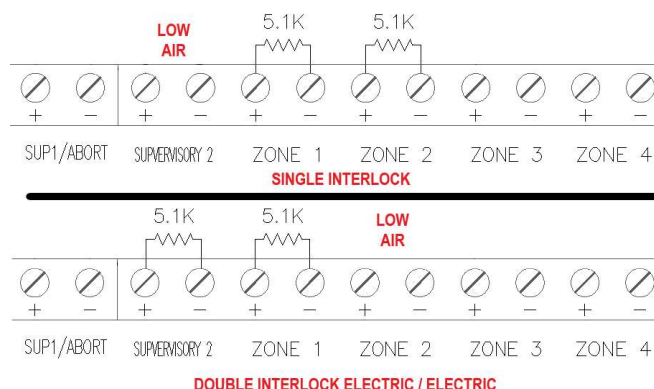

Figure 5
5.2. POTTER MODEL PFC-4410-RC CONVENTIONAL CONTROL PANEL. Refer to Figure 5.